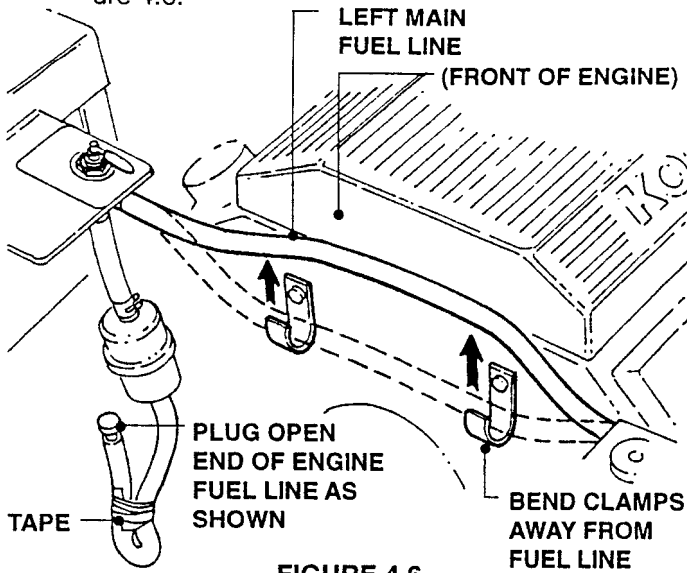

FIGURE 4.6
G. Separate Left Main Fuel Line from front of engine by bending hose clamps away from line. See Figure 4.6.